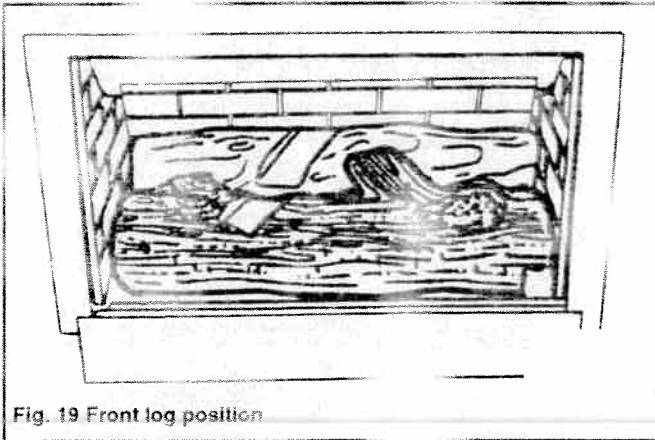

Fig. 19 Front log position
- 15.4 Place the front log on the retaining cradles between the rear and front burner tubes. Center the log so that the gap to the side wall is the same at each side (see figure 19).